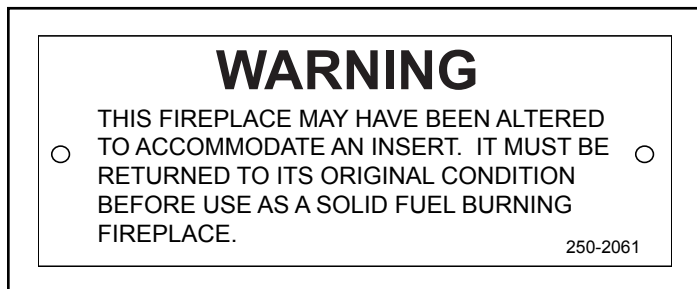

Figure 12.1
- The permanent metal warning label provided must be attached to the back of the fireplace, with screws or nails, stating that the fireplace may have been altered to accommodate the insert, and must be returned to original condition for use as a conventional fireplace (**Figure 12.1**).